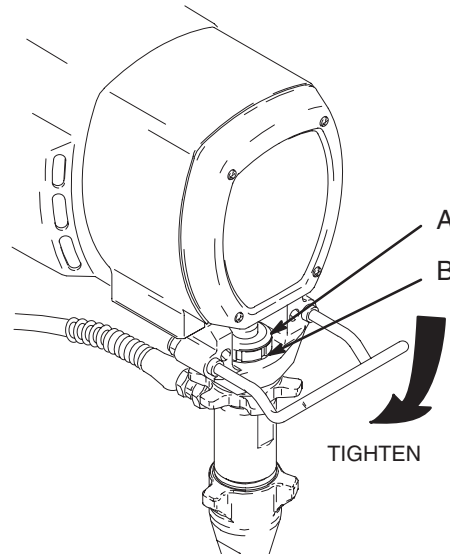

Fig. 6
1. Check packing nut (A) daily. First relieve pressure. Keep packing nut full of TSL at all times to help prevent fluid buildup on piston rod and premature wear of packings. See Fig. 6.